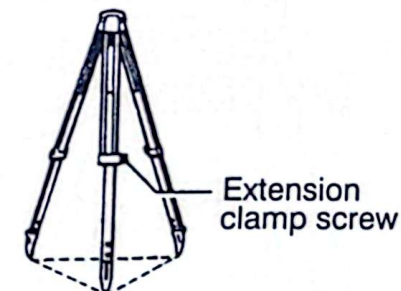

Fig.4.1
- 1) Unbuckle the band around the tripod legs and loosen the extension clamp screws. (Fig.4.1)